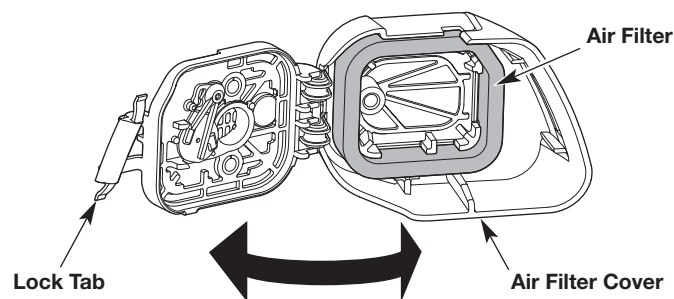

Fig. 18
1. Open the air filter cover: press in the lock tab and swing the air filter cover to the right (Fig. 18).
2. Remove the air filter from inside the air filter cover (Fig. 18).
6. Reinstall the air filter inside the air filter cover (Fig. 18).
7. Close the air filter cover: swing the air filter cover to the left and press it closed until the lock tab snaps into place (Fig. 18).